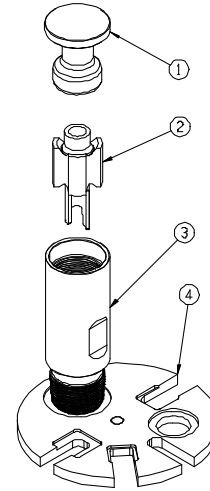

Figure 12-4b HH46, HH57, HH68 & HH108 Inserting Shock Absorber into End Cap
(HH46, HH57, HH68 & HH108 refer to **Figure 12-4b**). Shock Absorber Installation Tool is not used with these models).
16. Lubricate the outer surface of the Shock Absorber with Rubber Lube P80 or equivalent. With the fingers of the Valve Guide pointing down, position the Shock Absorber with the Valve Guide as shown in Figure 12-4b.
17. Center the Shock Absorber Pusher Tool over the Shock Absorber as shown in Figure 12-4b.